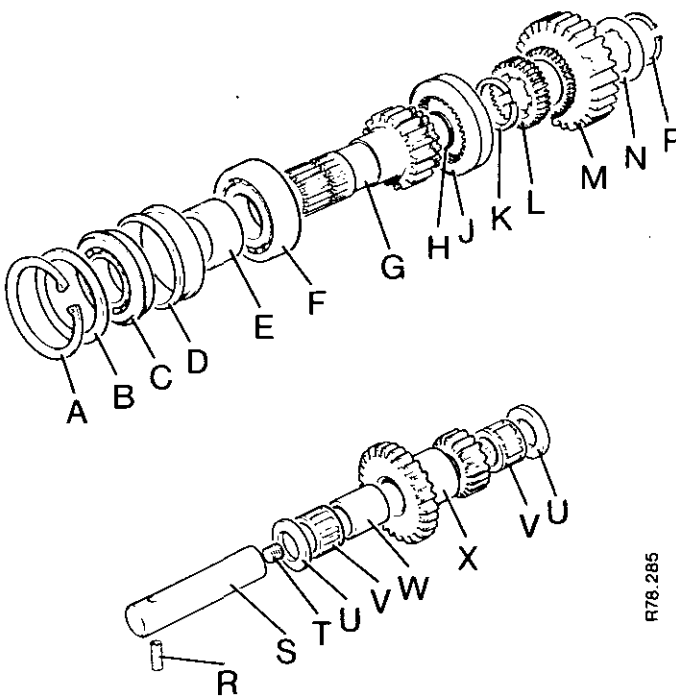

FIGURE 88. SLOW/NORMAL GEARS 1410 TRACTOR
13. Remove the slow/normal dog gear L, Figure 88 and the sliding selector from the front of the topshaft.